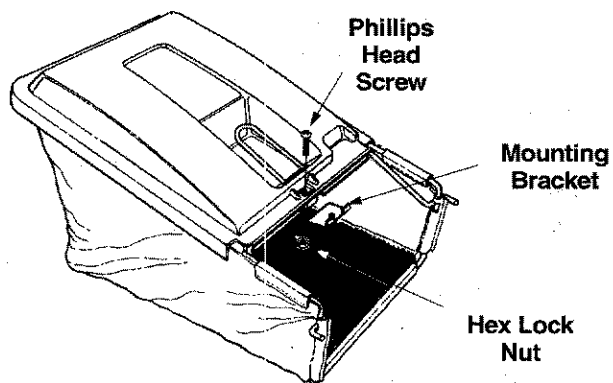

Figure 11
- Place the mounting bracket under the front of the handle, with the tabs on the bracket facing up. Insert phillips head screws down through the hardtop cover and mounting bracket. Secure with hex lock nuts. See Figure 11.